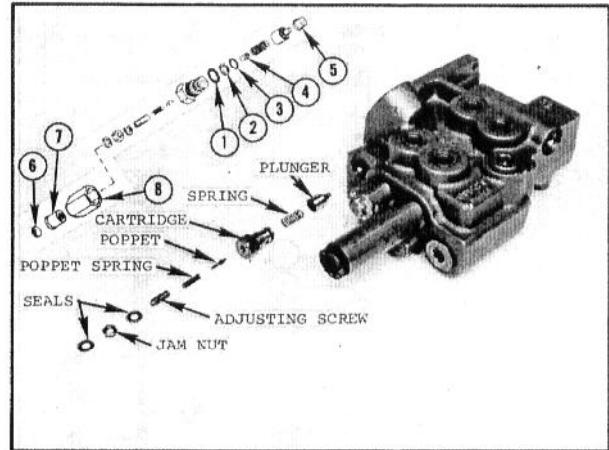

**Fig. 35 — Removing/Installing Detent Barrel and Centering Spring Parts**
b. Use a suitable spring compressing tool to compress spring and remove the detent barrel as shown in Fig. 35 ... then carefully release tool and separate spring retainers and spring from spool.
10. Place spring retainers and centering spring over spring end of spool ... then while compressing the centering spring as shown in Fig. 35, install detent barrel tightened to 9-10 ft.-lbs. torque.